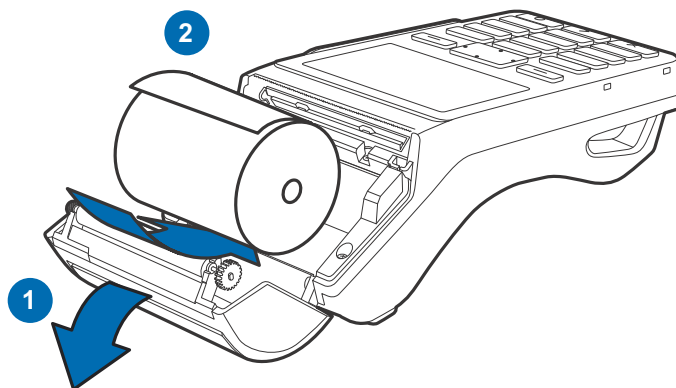

Figure 11 Opening Printer Door and Loading Paper Roll
- 5 Load the paper roll as shown in Figure 11, with the edge of the paper on the top of the roll.